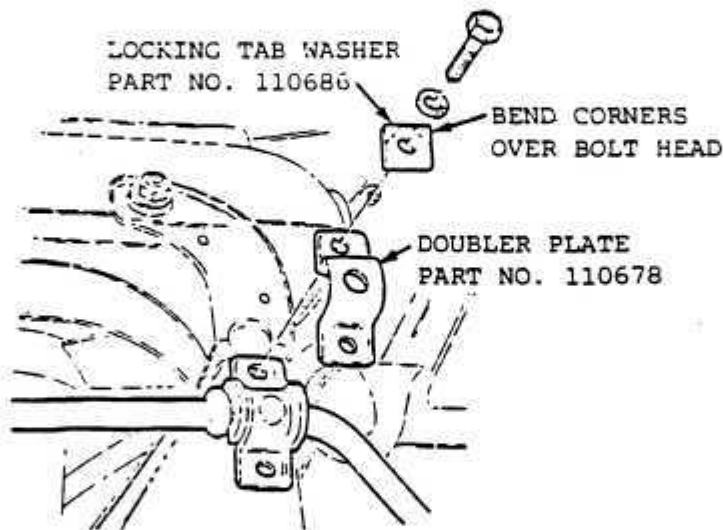

FIGURE 2
4. Install lock tab, lock washer and bolt as shown in Figure 2 (using existing lock washer and bolts).
6. Bend locking tabs as per Figure 2.